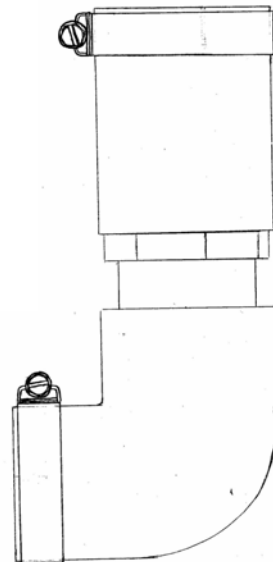

Figure 4.
3. Attach fitting to hopper and gun with hose clamps as indicated in Figure 4.